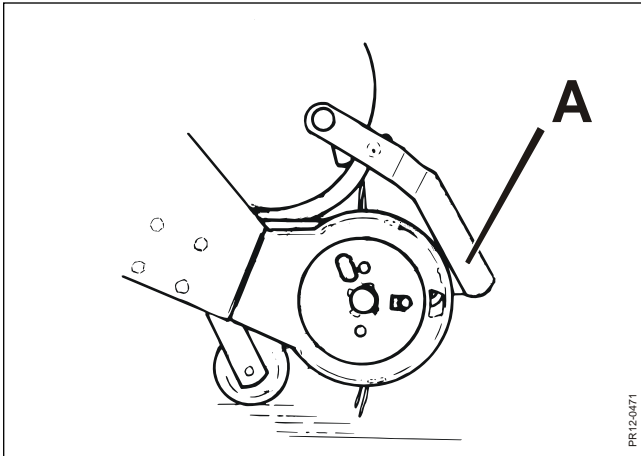

Fig. 6-1
**Fig. 6-1** The feed intake plate **A** above the pick-up should be dismantled when working in heavy and strong crops as the auger can easily pull the crop into the feed intake section under such conditions. At the same time you will have optimal preconditions for problem-free reverse out of the auger as the feed intake plate **A** usually tends to prevent the crop from being reversed freely out of the auger. See also the section "REVERSE" in chapter 4.